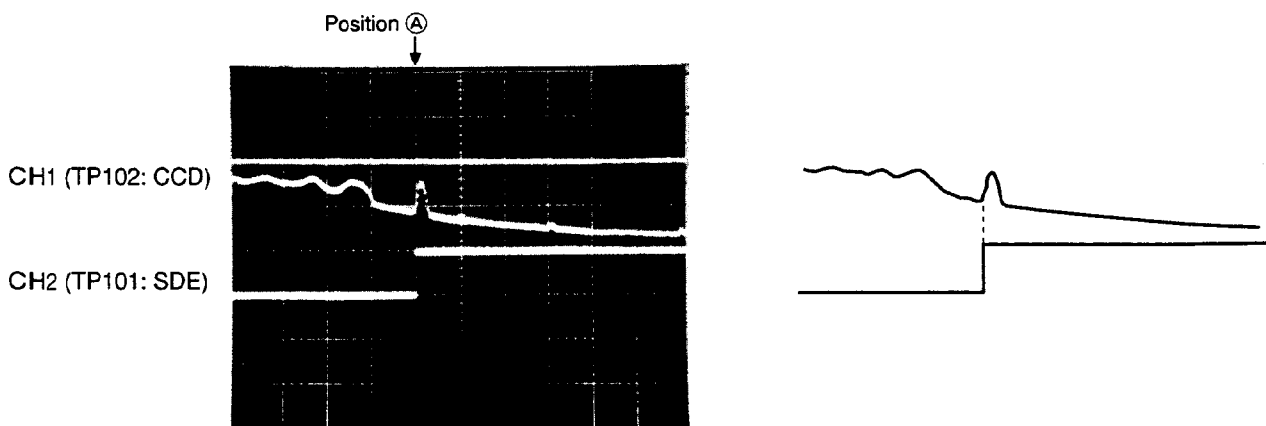

Fig. 6-11
2. By repeatedly pressing either the "Multi-Copy" or the "2-Screen" key, change the relationship between the first "bump" on the falling CCD signal and the rising edge of the "SDE" signal. The goal is to align these signals as shown in Fig. 6-11 below.